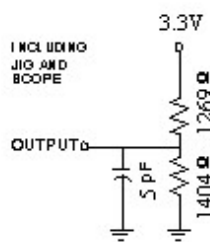

FIGURE 1B
5. Transition is measured  $\pm 500\text{mV}$  from steady state with  $CL = 5\text{pF}$  as shown in Figure 1B. The parameter is guaranteed but not 100% tested.
10. Transition is measured  $\pm 500\text{mV}$  from steady state with  $\text{CL} = 5\text{pF}$  as shown in Figure 1B. The parameter is guaranteed but not 100% tested.